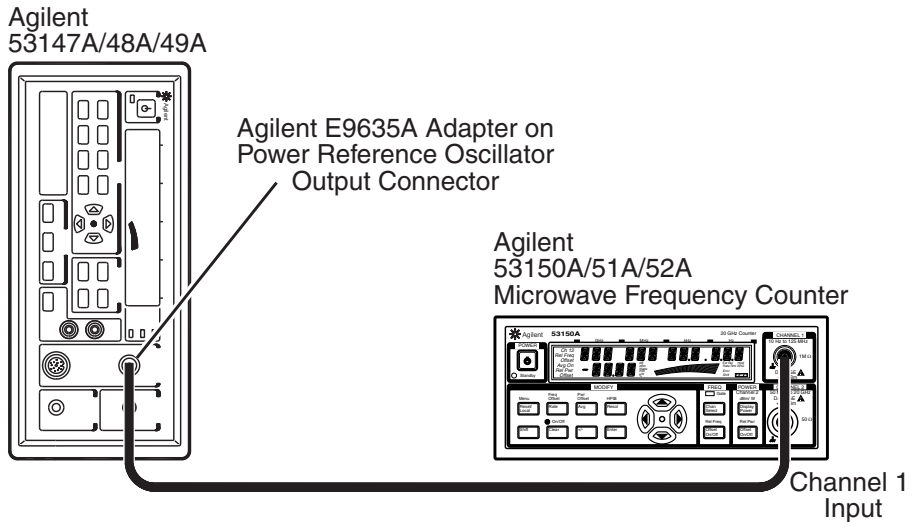

Figure 2-2. Reference Oscillator Frequency Adjustment Setup
- 3 Position the Agilent 53147A/48A/49A on its right side so that you have access to the front panel and the left side of the main circuit board (see Figure 2-2).
- 6 Connect an Agilent E9635A adapter to the Power Meter OUTPUT connector as shown in Figure 2-2.